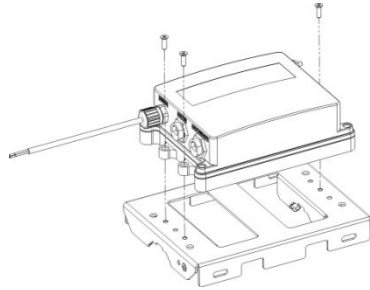

Figure 5
1. Before reaching the installation site, attach the Midspan to the fore-panel and fasten it using four bolts (see Figure 5).